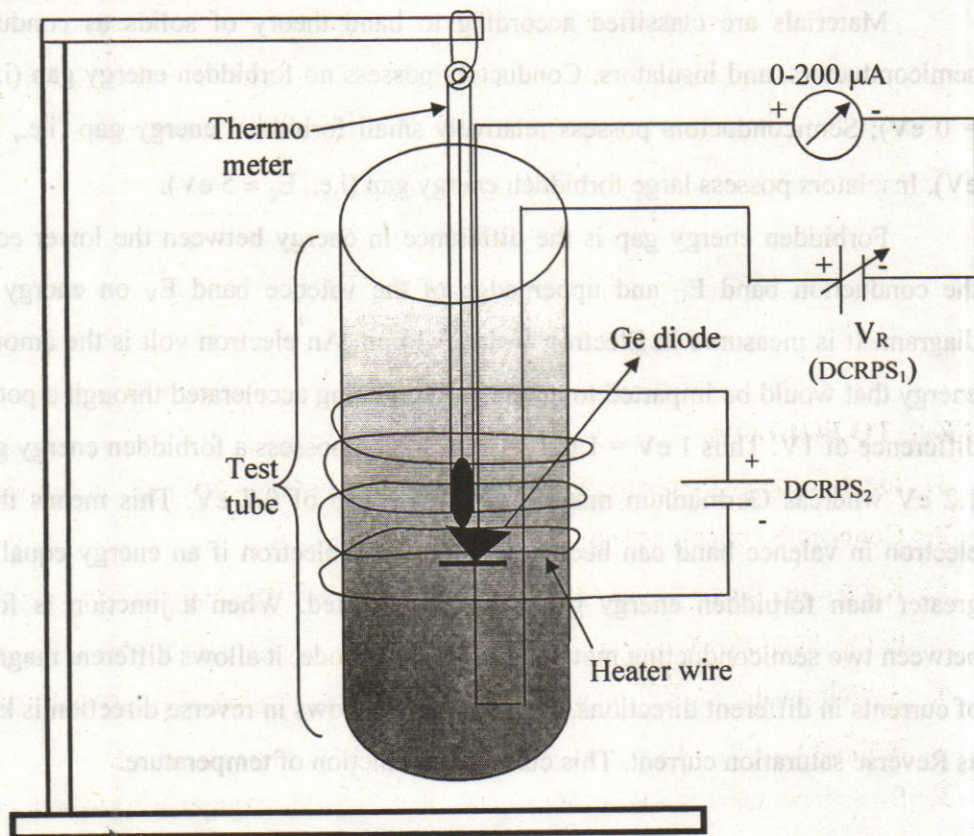

Fig.12.1
2. Connect the circuit as shown in Fig.12.1.